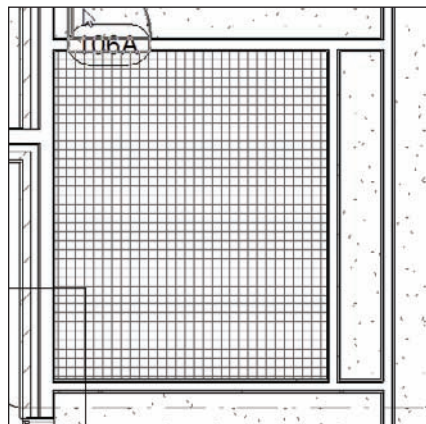

FIGURE 6.45 The completed lavatory
4. After you see the perimeter of the small region you created around the inside of the lavatory, pick a spot. The area will fill with the new material (see Figure 6.45).